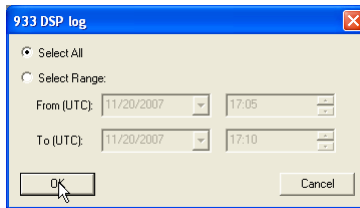

Figure 5.10: Selecting Events to Download – PSCSV 933
The screenshot shown in Figure 5.10 allows you to choose either to Select All records or Select Range. Select Range allows you to limit the number of records you want to view by date and time.
2. From the Data Selection window, choose either Select All or Select Range data by date and time – see Figure 5.10. If choosing Select Range, date and time values are in UTC format.